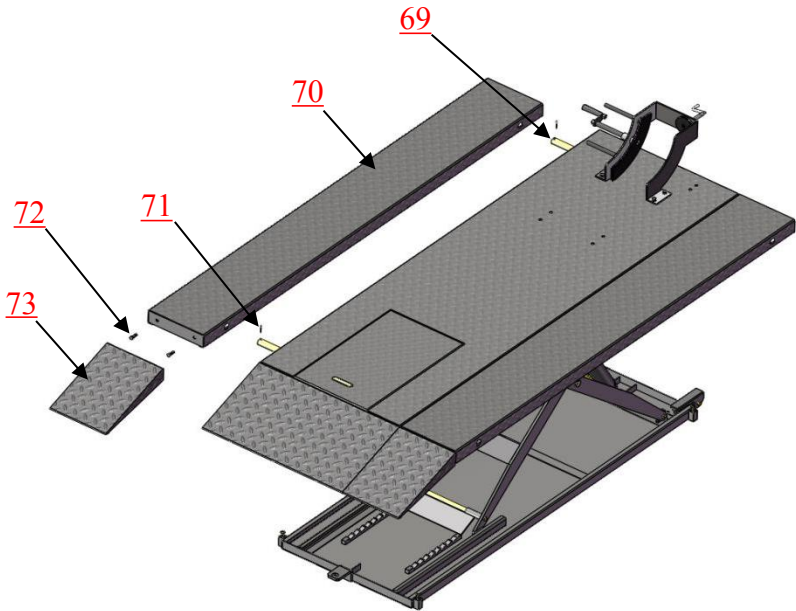

Fig.15
D. Install Optional Width Extension Kit(MC001). See Fig.15